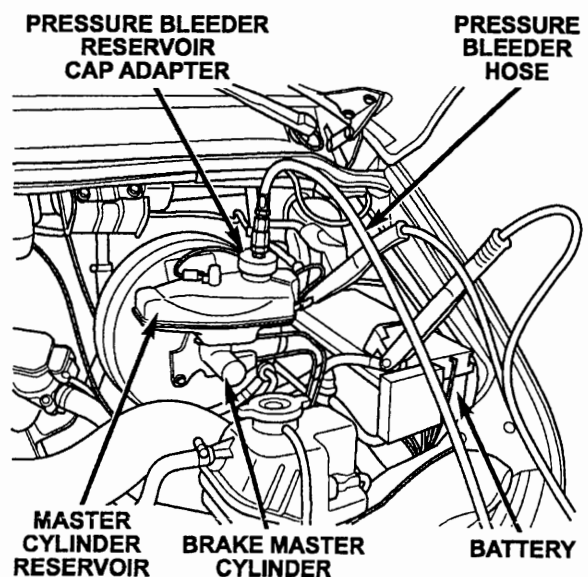

Figure 2
6. Connect the pressure bleeder to the master cylinder reservoir (Figure 2).